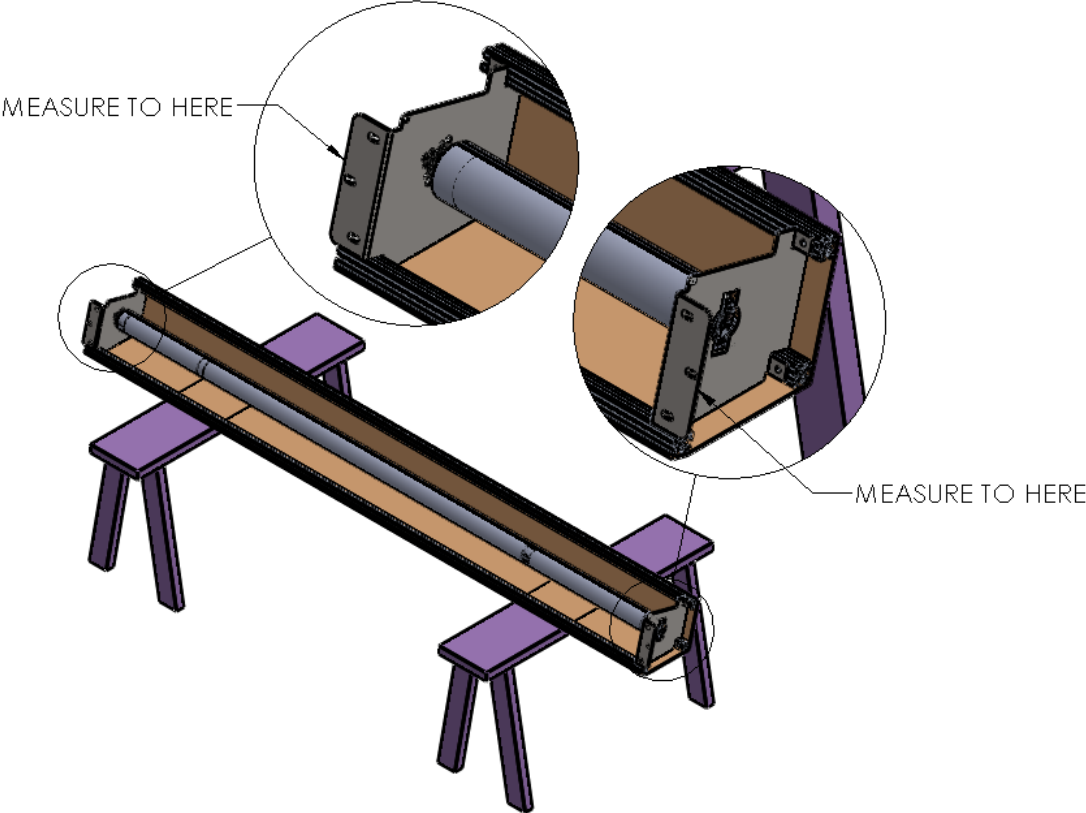

Figure 2 MEASURE DOOR WIDTH
2. Place the Door roll Header Assembly across a safe and level work surface, and rotate the roll assembly frame so that the Header Bracket Mounting flanges are facing upward. (Figure 2 MEASURE DOOR WIDTH).
3. Measure the total width of the whole roll assembly from outermost edge of one Header Bracket's Mounting flange to the outermost edge of the opposite side. (Figure 2 MEASURE DOOR WIDTH)